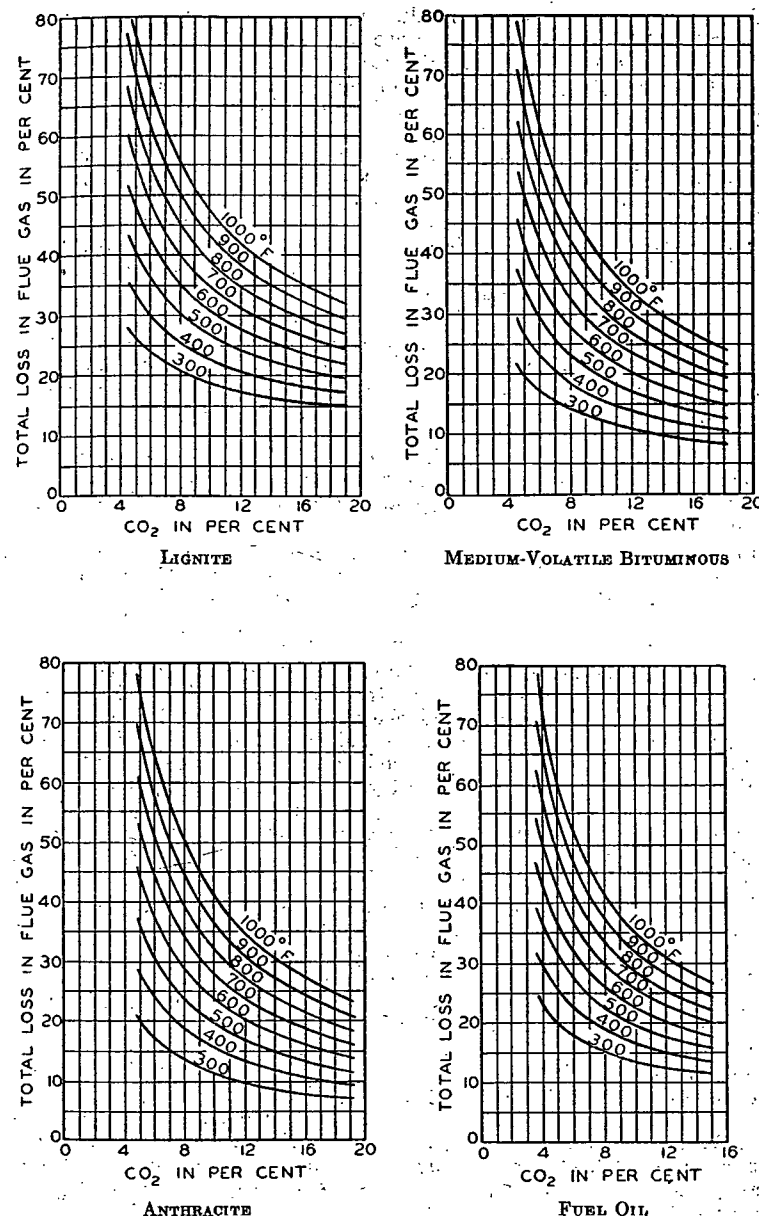

FIG. 1. FLUE GAS LOSSES WITH VARIOUS FUELS
The flue gas losses listed as items 2, 3, and 4 of the heat balance may be determined with considerable accuracy from the curves shown in Fig. 1² in many cases. The values of the losses plotted for fuel oil were computed from the ultimate analysis of a typical fuel oil used in domestic burners, while those plotted for the several ranks of coal were computed from the typical ultimate analyses shown in Table 1. The curves for medium volatile bituminous coal may be used for high volatile bituminous coal with negligible error. No curves are shown for gaseous fuel because various natural gases and manufactured gases vary considerably in their composition.